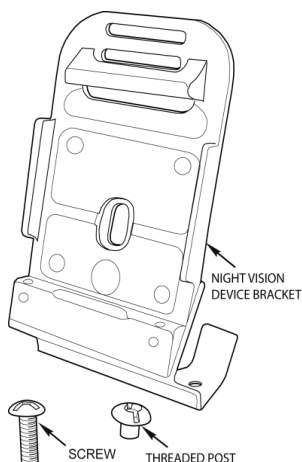
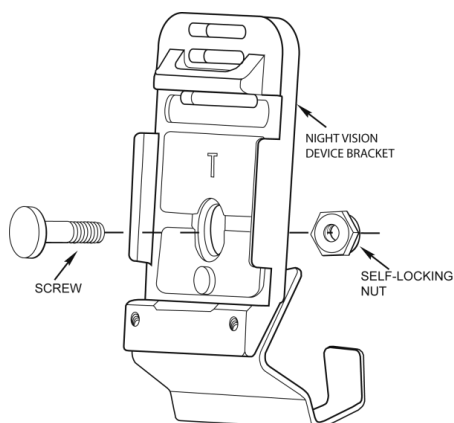
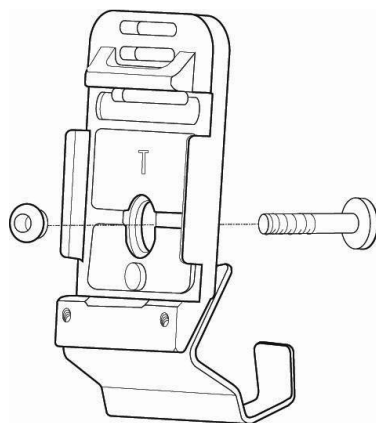

Figure 18. Old ACH NVD Bracket Assembly.
Figure 19. New ACH NVD Bracket Assembly with Flathead Screw and Self-Locking Nut.
Figure 20. New ACH NVD Bracket Assembly with Slotted Flathead Screw and Locking Nut.
The NVD bracket for the ACH is available in three versions: an “old” version (shown in Figure 18), which is black and two “new” versions (shown in Figures 19 and 20), which are tan. They are referred to as the “old NVD bracket” and the “new NVD bracket” throughout this manual in order to differentiate between them. Both brackets are listed under the same NSN. See the Additional Authorization List (WP 0027) for NSN information.
There are two different sets of hardware for the new (tan) ACH NVD bracket: a flathead screw with a self-locking nut shown in Figure 19 and a slotted, flathead screw with a nut shown in Figure 20. The slotted screw inserts from inside the helmet and the nut seats on the outside of the bracket as shown in Figure 20. See the Additional Authorization List (WP 0027) for NSN information.
The old version of the bracket (Figure 18) uses a flathead screw and threaded post and requires a flathead screwdriver for attachment to the helmet. It is black in color. The slot through which the screw and post are accepted is .17 inches.
- Some brackets use a flathead screw without a slot and a self-locking nut, as shown in Figure 19. The screw is inserted from the outside of the bracket to the inside of the helmet. The self-locking nut attaches to the screw inside the helmet.
- Other brackets use a slotted screw with a round locking nut, as shown in Figure 20. The screw inserts from *inside* the helmet to the outside of the bracket. The round nut seats on the *outside* of the bracket.